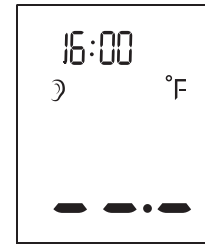

Figure 2
1. Press the *Test Button*, the display is activated to show all segments. After self-checking Figure 2 appears on the display screen with beeps, so you can start a new measurement. If error messages appears, it means the thermometer is not ready for measurement.
When the thermometer has been turned on and followed by Figure 2/4 or finished testing, press the *Memory Button*. The letter MEM will appear at the top right corner of the display.